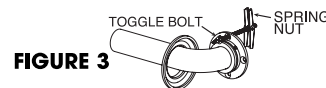

FIGURE 3
2. Use the 3/8-inch power drill and 5/8-inch drill bit to drill six (6) holes where marked. **NOTE:** If installing Grab Bar over ceramic tiles, the 5/8-inch carbide drill bit will be needed for drilling through tile, in order to prevent damage to tiles. Once a hole has been drilled through the tile, use the 5/8-inch drill bit to drill through the backing support for the tile.
3. Insert one (1) **TOGGLE BOLT** through any one of the mounting holes on one end of the Grab Bar. Start a spring nut on the end of the **TOGGLE BOLT** as shown (see **Figure 3**), screwing it onto the bolt about three turns. Repeat this step for the remaining two (2) **TOGGLE BOLTS** on that same end of the Grab Bar.